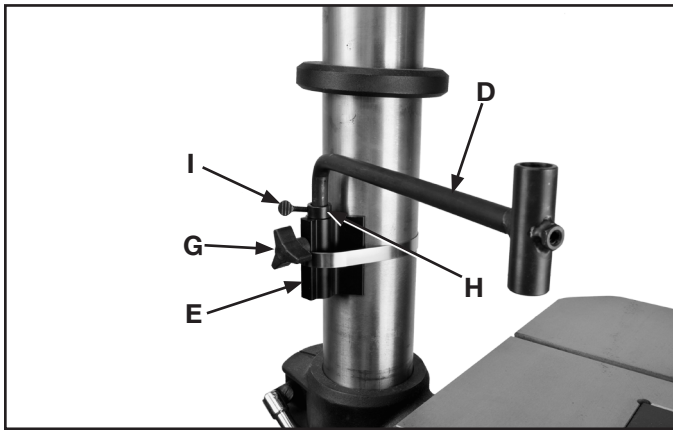
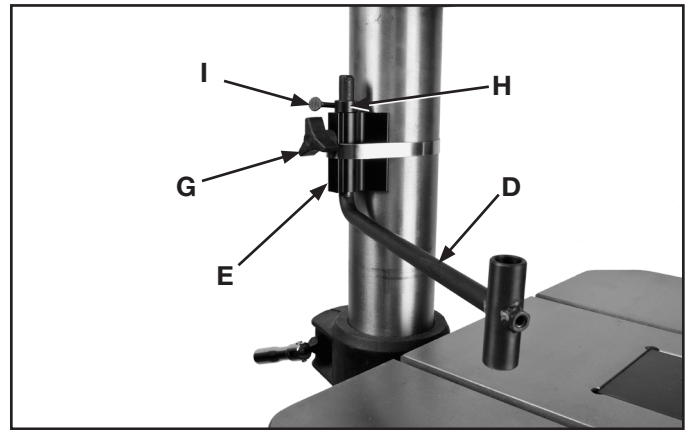

Fig. 4
Fig. 5
2. The column arm (D) Figs. 4 and 5, can be assembled to the column bracket (E) by inserting end of arm (D) down through hole in column bracket (E), as shown in Fig. 4, or up through hole in column bracket (E), as shown in Fig. 5. In both cases the locking collar (H) and thumb screw (I) should be positioned on top of the column bracket (E), as shown in Figs. 4 and 5.
3. Thread lock knob (G) Figs 4 and 5, into hole in column bracket to lock arm (D) in position.